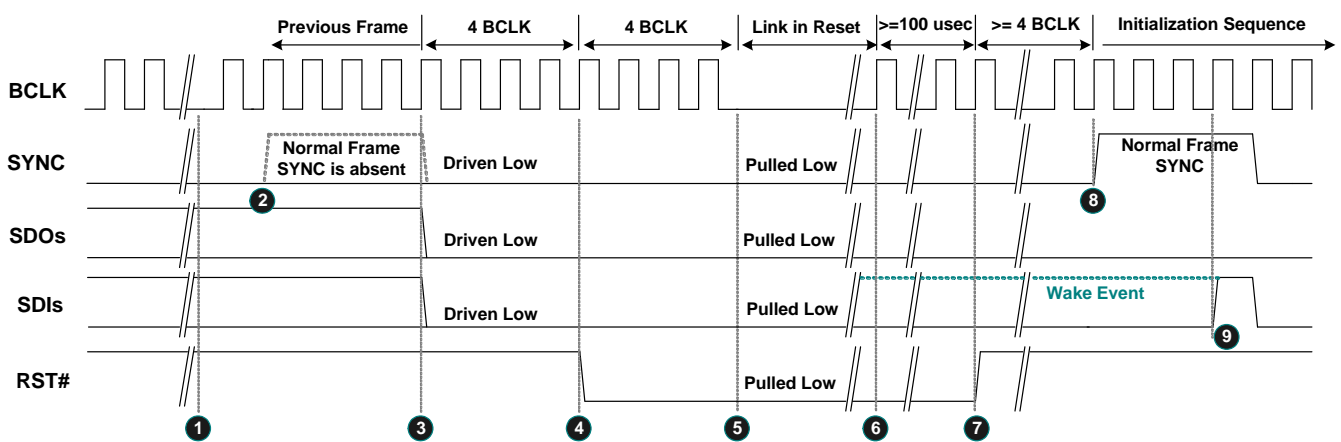

Figure 16. Link Reset Timing
3. Software initiates power management sequences. Figure 16, page 25, shows the 'Link Reset' timing including the 'Enter' sequence (❶~❺) and 'Exit' sequence (❻~❾)